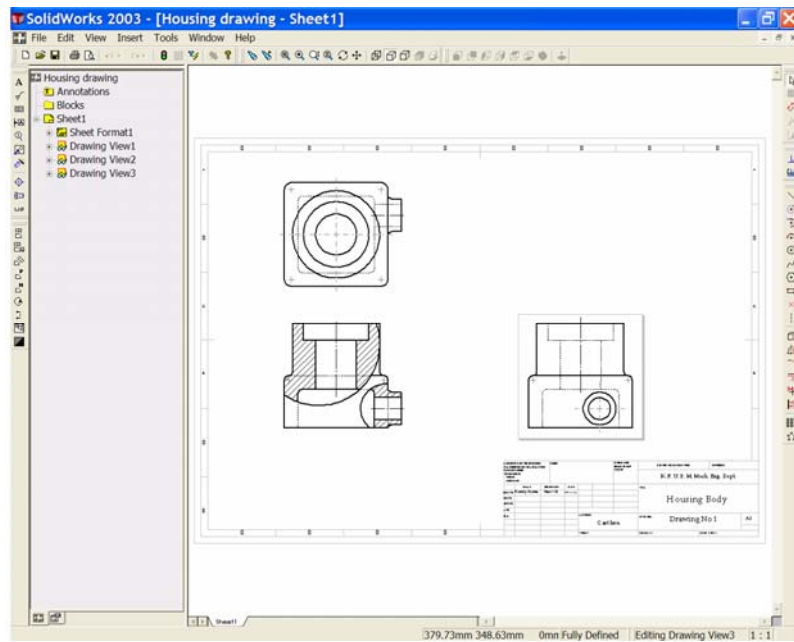

Figure 29
27. On your own, use the same procedure to create a second Broken-out Section for the counterbore hole. See Figure 29.